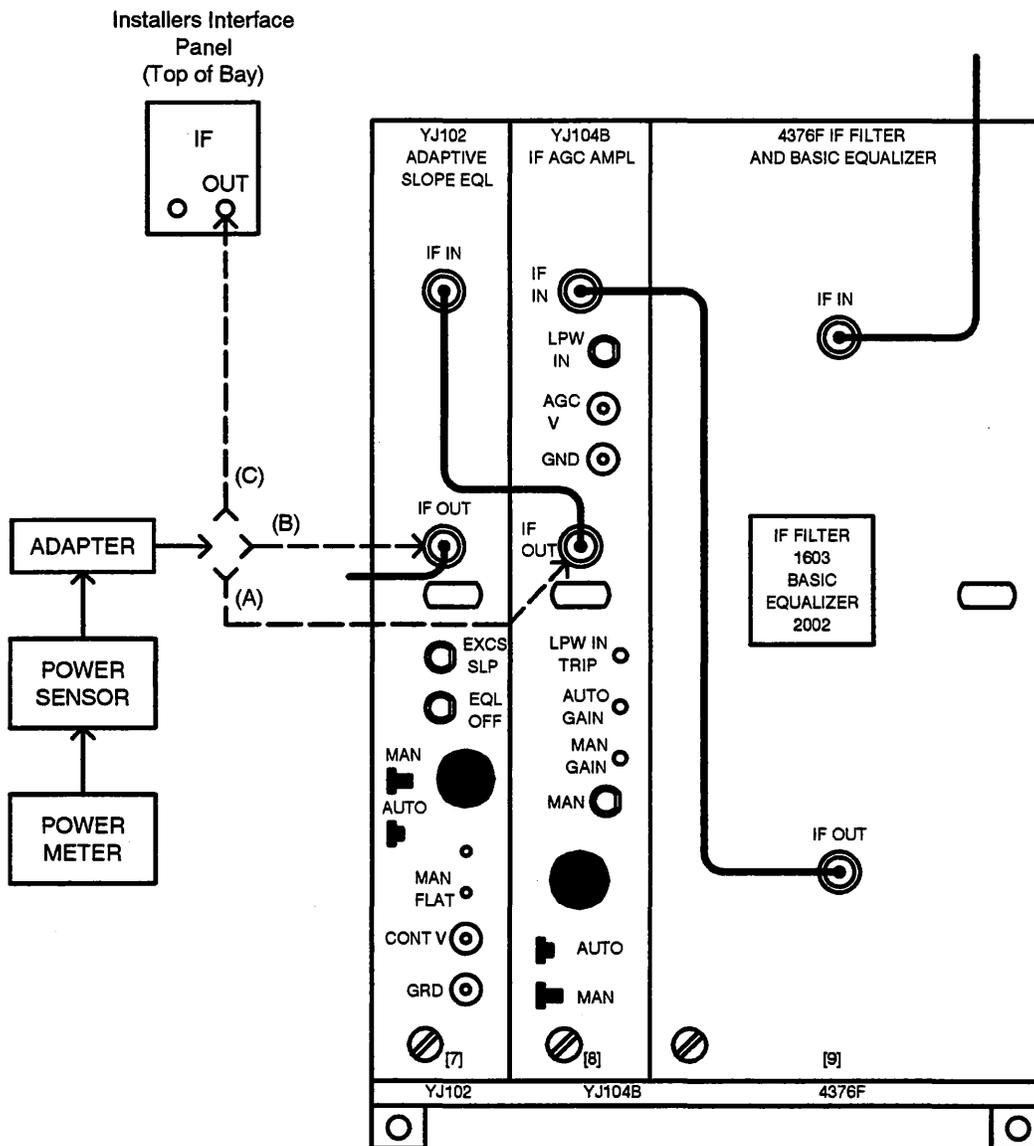

Figure 12-IF AGC Amplifier and Adaptive Slope Equalizer Level Checks
- Refer to Figure 12.
4. Condition the power meter to measure the expected power level (normally  $-2 \text{ dBm}$ ), and connect it to the IF OUT jack (Figure 12, Option A).
10. Connect the power meter to the IF OUT jack on the ADAPTIVE SLOPE EQL unit (Figure 12, Option B).
13. Connect the power meter to the IF OUT jack on the installer interface panel (Figure 12, Option C).